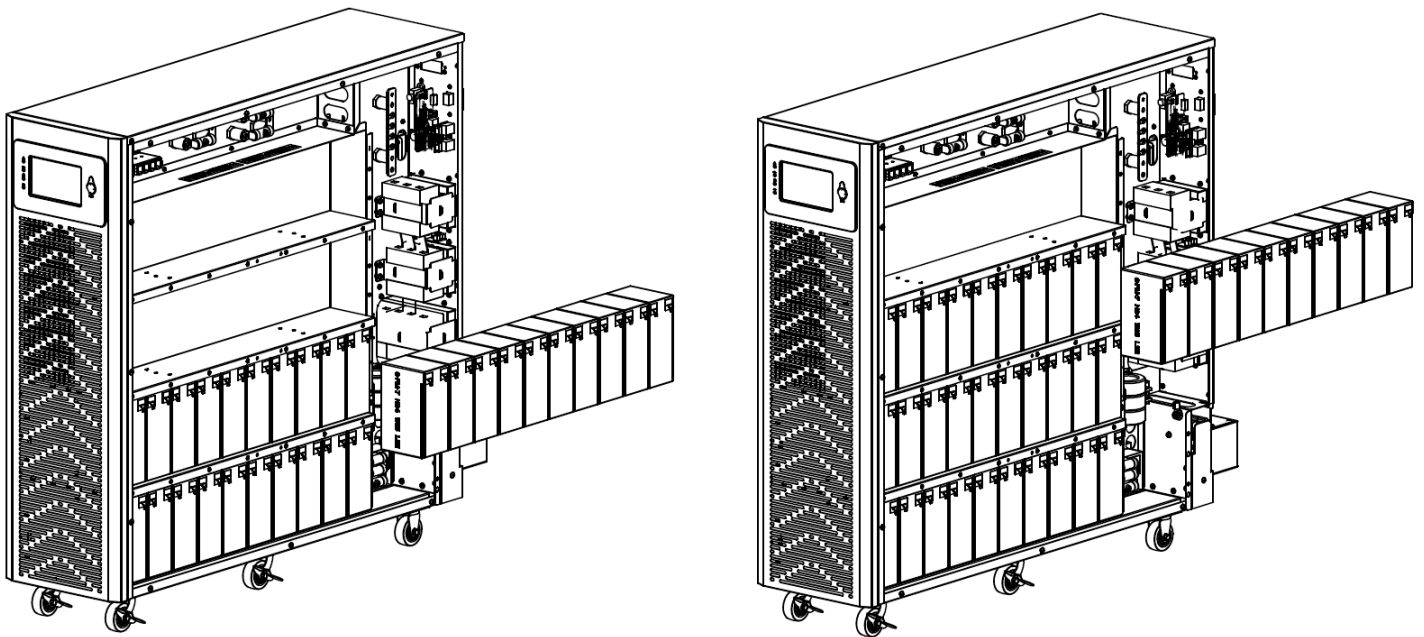

Figure 3-10: Install batteries on the third and fourth shelves on the right side.
5. Install 10 batteries on the third and fourth shelves on the right side (Figure 3-10). Always keep the terminal side of all batteries facing up.